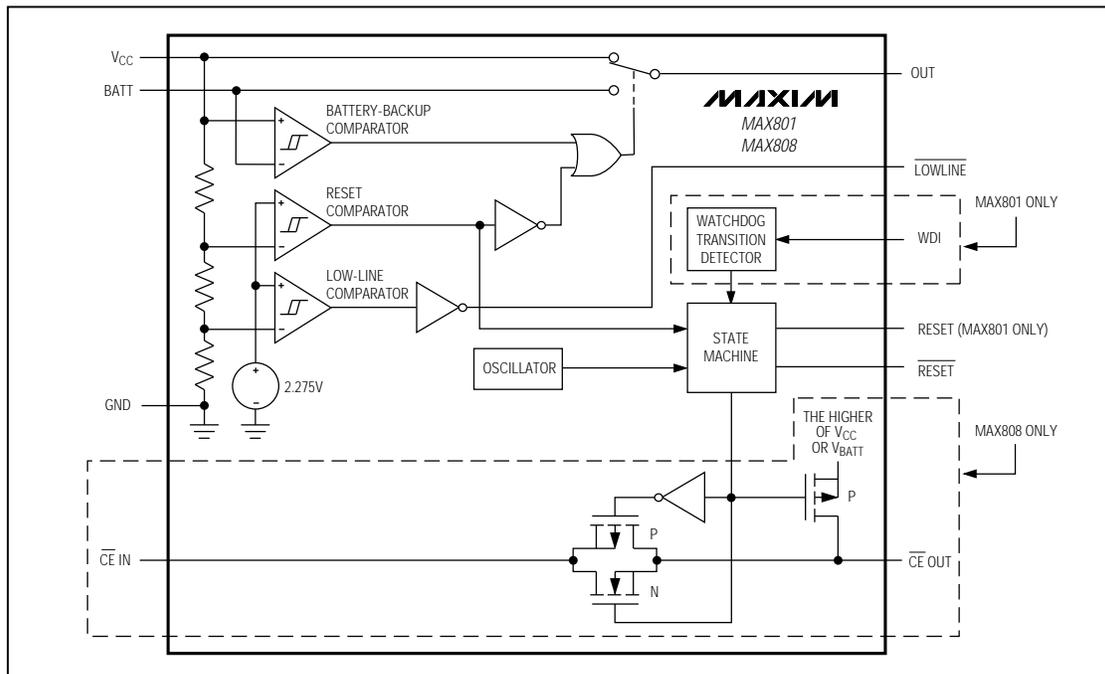

Figure 1. Functional Diagram
The MAX801/MAX808 microprocessor (μ P) supervisory circuits provide power-supply monitoring and backup-battery switchover in μ P systems. The MAX801 also provides program-execution watchdog functions (Figure 1). Use of BiCMOS technology results in an improved, 1.5% reset-threshold precision while keeping supply currents typically at $68\mu\text{A}$ ($48\mu\text{A}$ for the MAX808). The MAX801/MAX808 are intended for battery-powered applications that require high reset-threshold precision, allowing a wide power-supply operating range while preventing the system from operating below its specified voltage range.
The MAX808 provides internal gating of chip-enable (CE) signals to prevent erroneous data from corrupting CMOS RAM in the event of a power failure. During normal operation, the CE gate is enabled and passes all CE transitions. When reset is asserted, this path becomes disabled, preventing erroneous data from corrupting the CMOS RAM. The MAX808 uses a series transmission gate from the chip-enable input ($\overline{\text{CE}}_{\text{IN}}$) to the chip-enable output ($\overline{\text{CE}}_{\text{OUT}}$) (Figure 1). The 8ns max chip-enable propagation from $\overline{\text{CE}}_{\text{IN}}$ to $\overline{\text{CE}}_{\text{OUT}}$ enables the MAX808 to be used with most μPs .